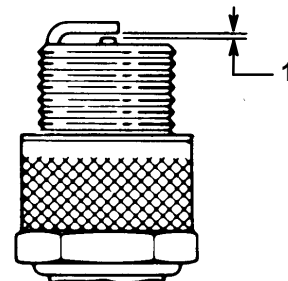

Figure 18
3. Set air gap at 0.020" (0.5 mm) (Fig. 18). Install correctly gapped spark plug and gasket seal. Tighten plug firmly to 14 ft-lb (19 N·m).